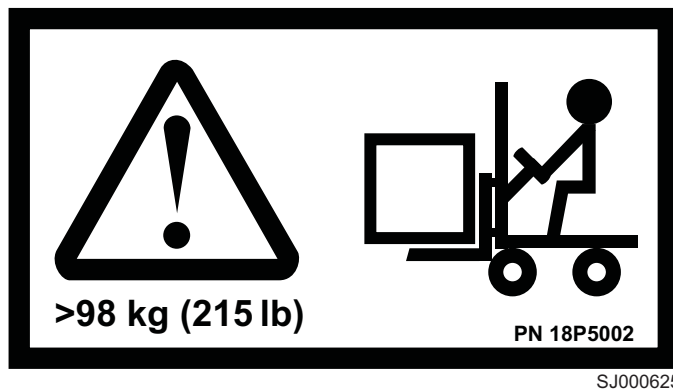

Figure 5. Heavy load label
- Verify that the heavy load label shown in Figure 5 is installed on the back of the switch.